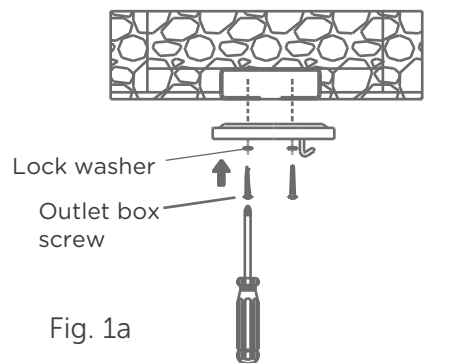

Fig. 1a
- Securely attach the mounting bracket to an outlet box marked "Acceptable for Fan Support", using the supplied outlet box screws with lock washers (Fig. 1a).